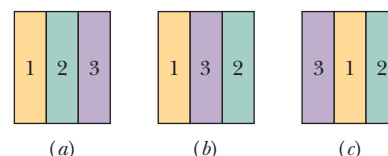

Figure 18-26 Question 6.
**6** Figure 18-26 shows three different arrangements of materials 1, 2, and 3 to form a wall. The thermal conductivities are  $k_1 > k_2 > k_3$ . The left side of the wall is 20 C° higher than the right side. Rank the arrangements according to (a) the (steady state) rate of energy conduction through the wall and (b) the temperature difference across material 1, greatest first.